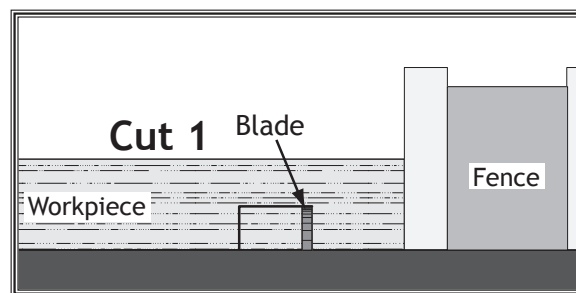

Figure 85. First cut when using a single blade for making a dado.
5. Align the blade to cut one of the dado sides, as shown in **Figure 85**.